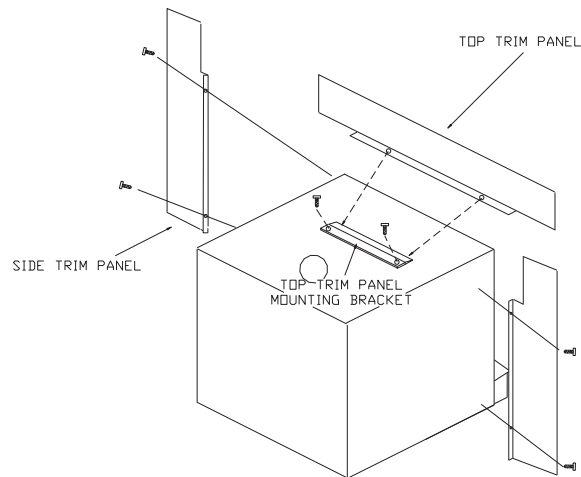

FIGURE 9 MOUNTING TRIM PANELS
1. Place side trim panels in place, flat against face of fireplace. Mark down front edge of trim panel with a pencil to make a vertical reference line. (See Figure 9).
4. Mount side trim panels. (See Figure 9).